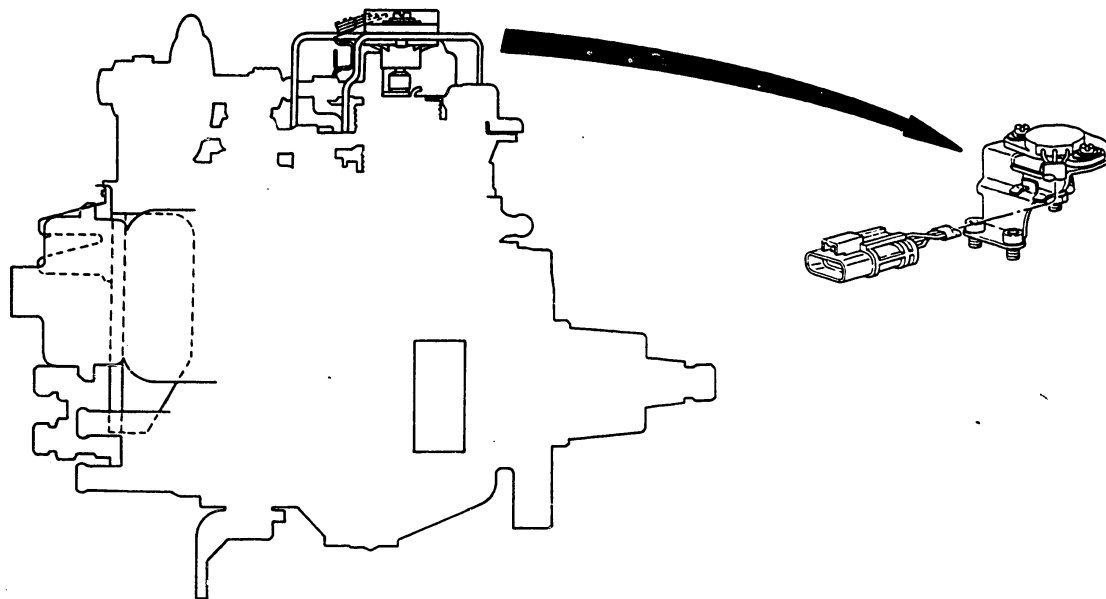

Fig. 66 Installation of the potentiometer
3. The potentiometer is connected to the VE pump control lever as shown in Fig. 66.